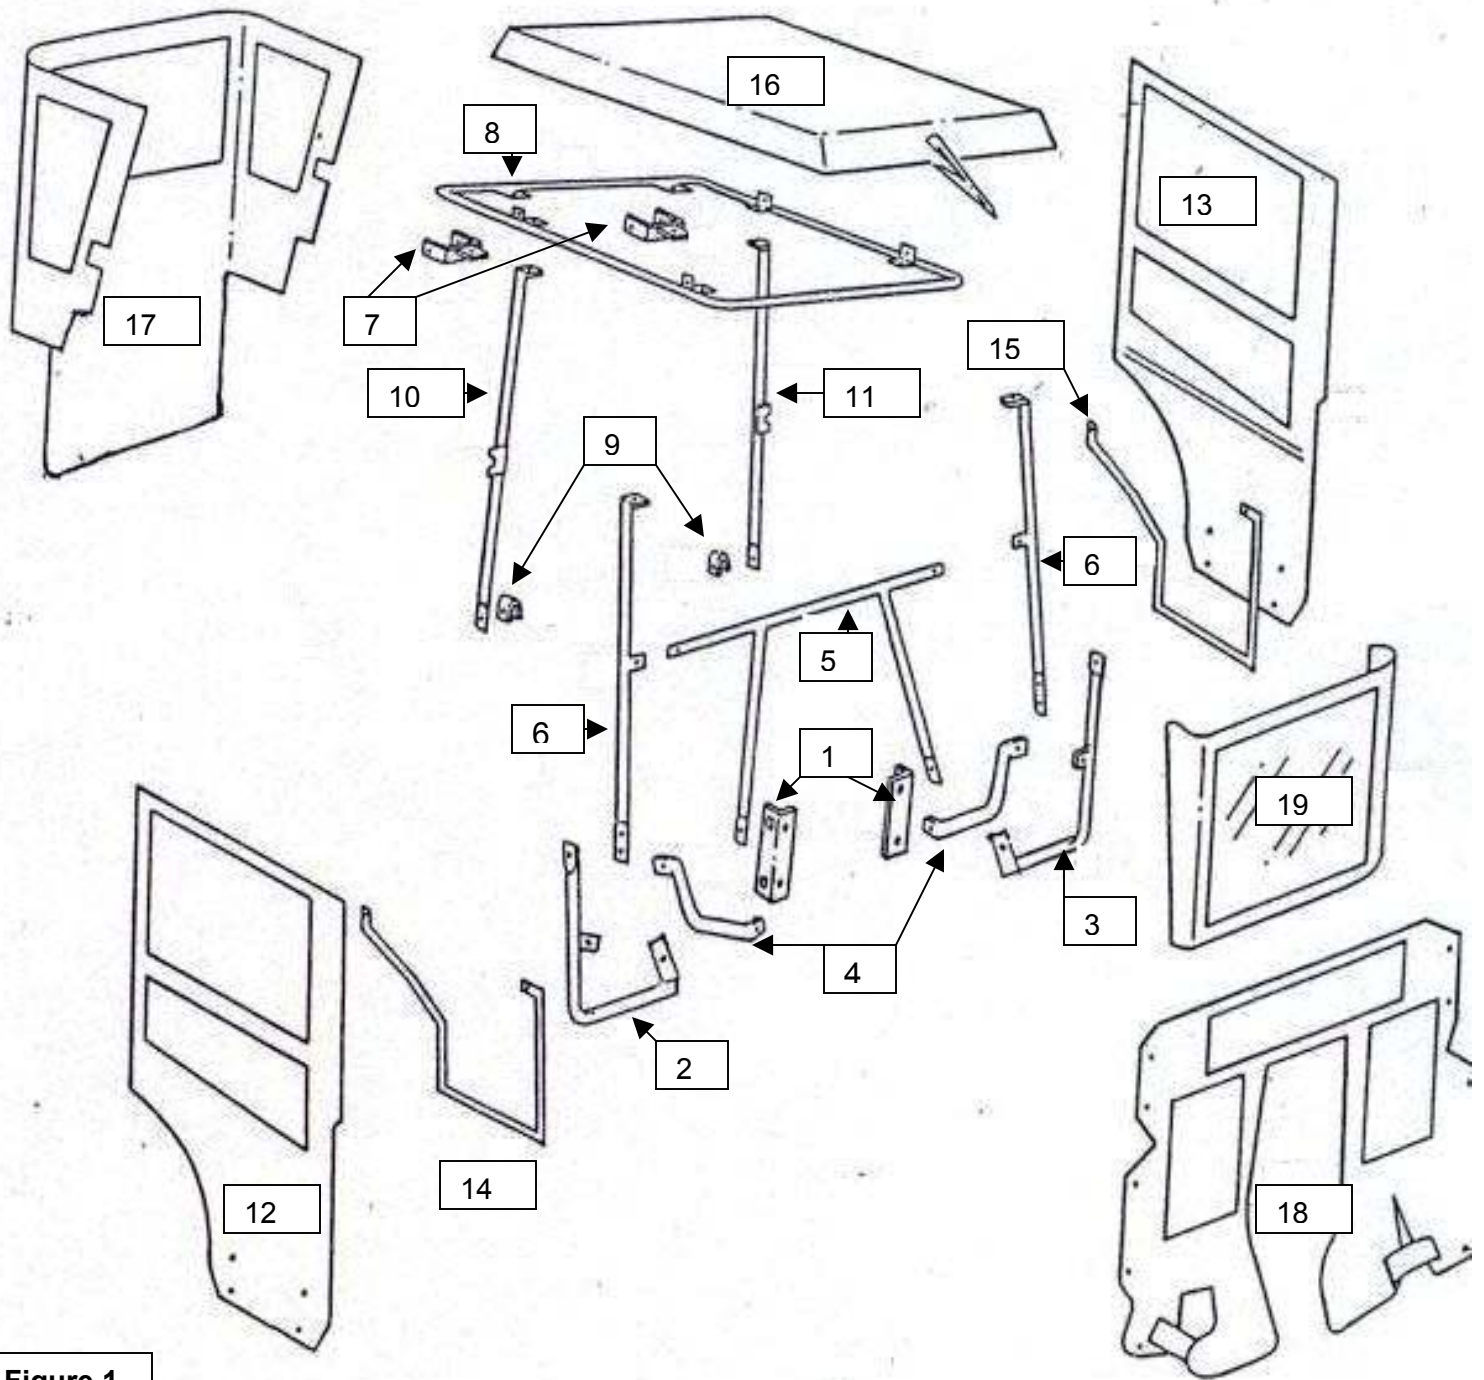

Figure 1
Step 1; See Figure 1:
Use the carton contents list and Figure 1 to identify the parts.
Step 9; See Figure 1: